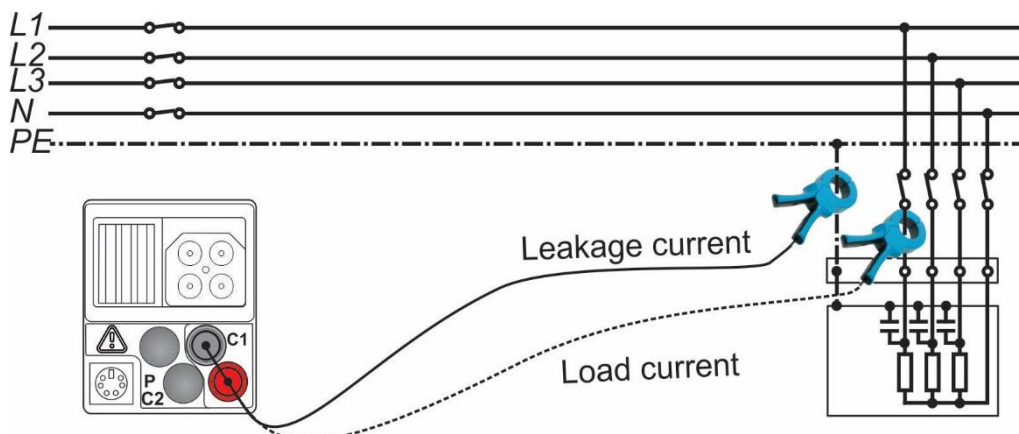

Figure 5.51: Leakage and load current measurements
- ❑ **Connect** the clamp to the item to be tested (see Figure 5.51).